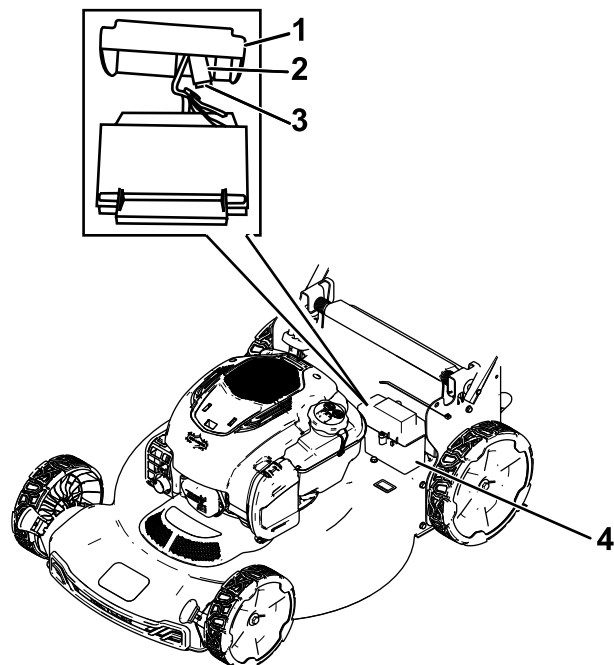

Figure 27
1. Remove the cover from the battery compartment (Figure 27).
2. Pull out the battery and locate the fuse (Figure 27).
3. Replace the fuse in the fuse holder (Figure 27).
4. Install the cover over the battery compartment (Figure 27).